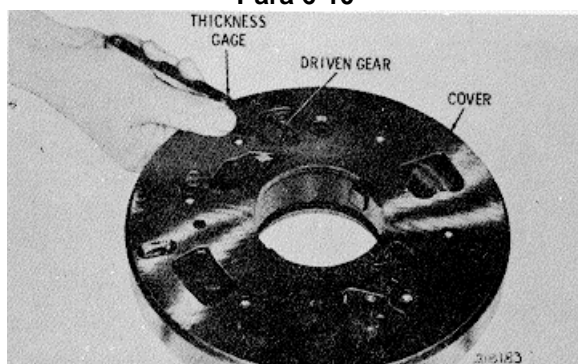
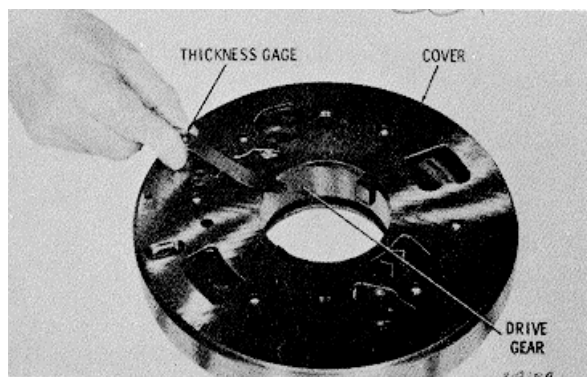

Fig. 6-19 Checking oil pump driven gear end clearance
Fig. 6-20 Checking oil pump drive gear end clearance
(20) Check the oil pump driven gear end clearance as shown in figure 6-19. Check the oil pump drive gear clearance as shown in figure 6-20. The gear end clearance should not exceed 0.006 inch (0.15 mm).